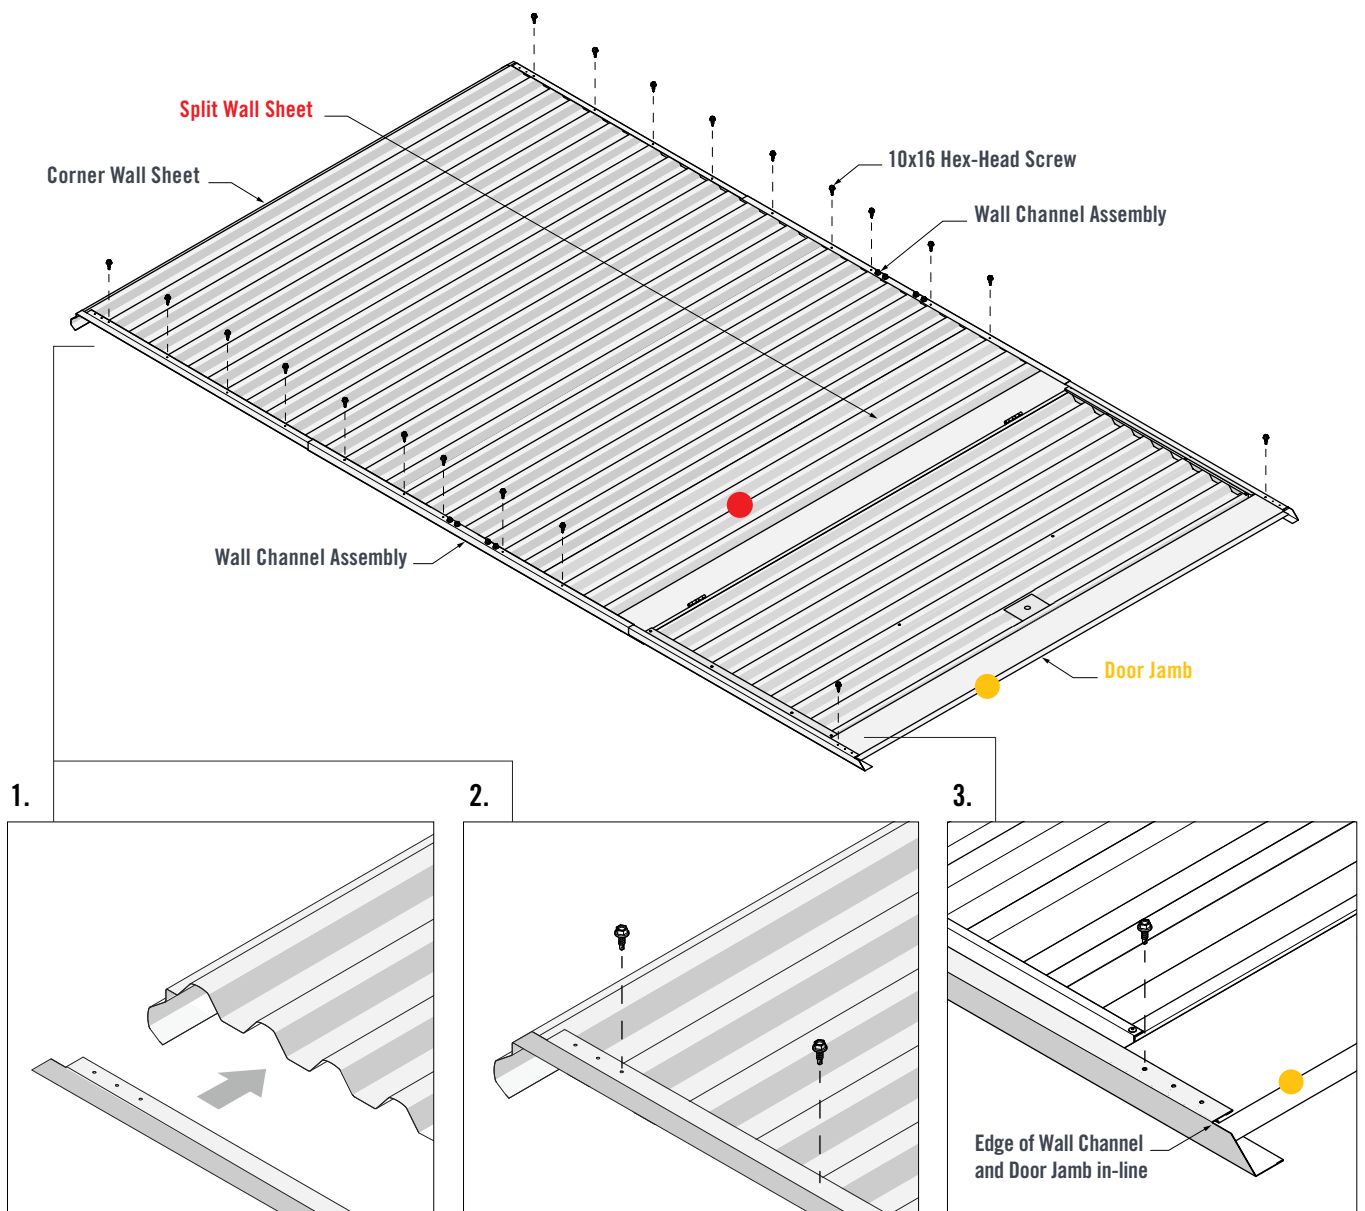

FIGURE 4.2
1. Fit two Wall Channel Assemblies over the lapped Wall Sheets and Door Jambs. The end of the Wall Channels should fit up against the end of the Corner Wall Sheet (Figure 4.2).
2. Fasten one 10x16 Hex-Head Screw through the third pilot hole of the bottom and top Wall Channels and into the Corner Wall Sheet crest. Fasten eight 10x16 Hex-Head Screws through the bottom and top Wall Channels and into every third Wall Sheet crest (Figure 4.2).
3. Ensure the edge of the Wall Channels and Door Jamb are in-line. Fasten one 10x16 Hex-Head Screw through the third pilot hole of the bottom and top Wall Channels and into the Door Jamb (Figure 4.2).